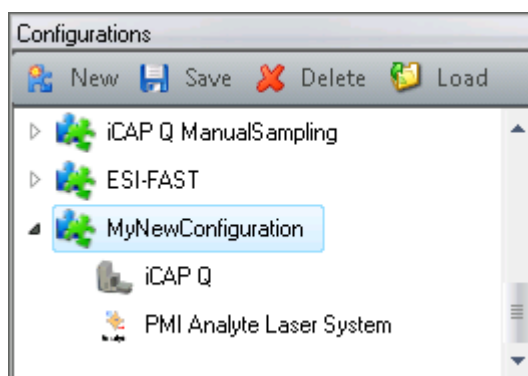

Figure 3-13. Instrument and laser system added to your Configuration
8. Drag and drop the peripheral you wish to add from the tab **Instruments** to your new Configuration, see Figure 3-13.